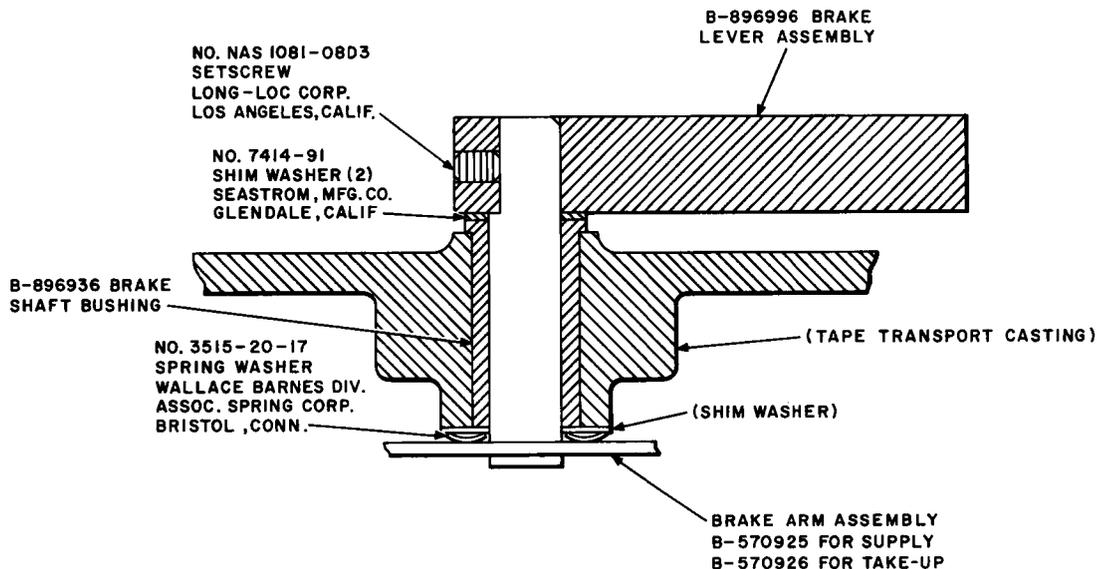

Fig. 12—Sectional View of Supply or Take-Up Reel Brake Assembly
(3) Before installing reel brake assembly, clean the shaft with a clean KS-2423 cloth.
**Caution:** When installing reel brake assembly, the spring washer (Fig. 12) should not be completely compressed.
(4) Install shim washer and spring washer on
shaft of brake arm assembly (Fig. 12), and insert shaft through brake shaft bushing. From the front of the transport, install shim washer and brake lever assembly on shaft with the lever bottomed on shaft. Using the 1/16-inch Allen wrench, tighten setscrew in the end of brake lever arm while applying slight pressure from the rear.